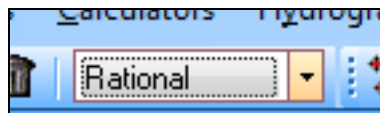

Figure 6 Rational model selected
1. Select “Rational” from Model drop-down (Figure 6).